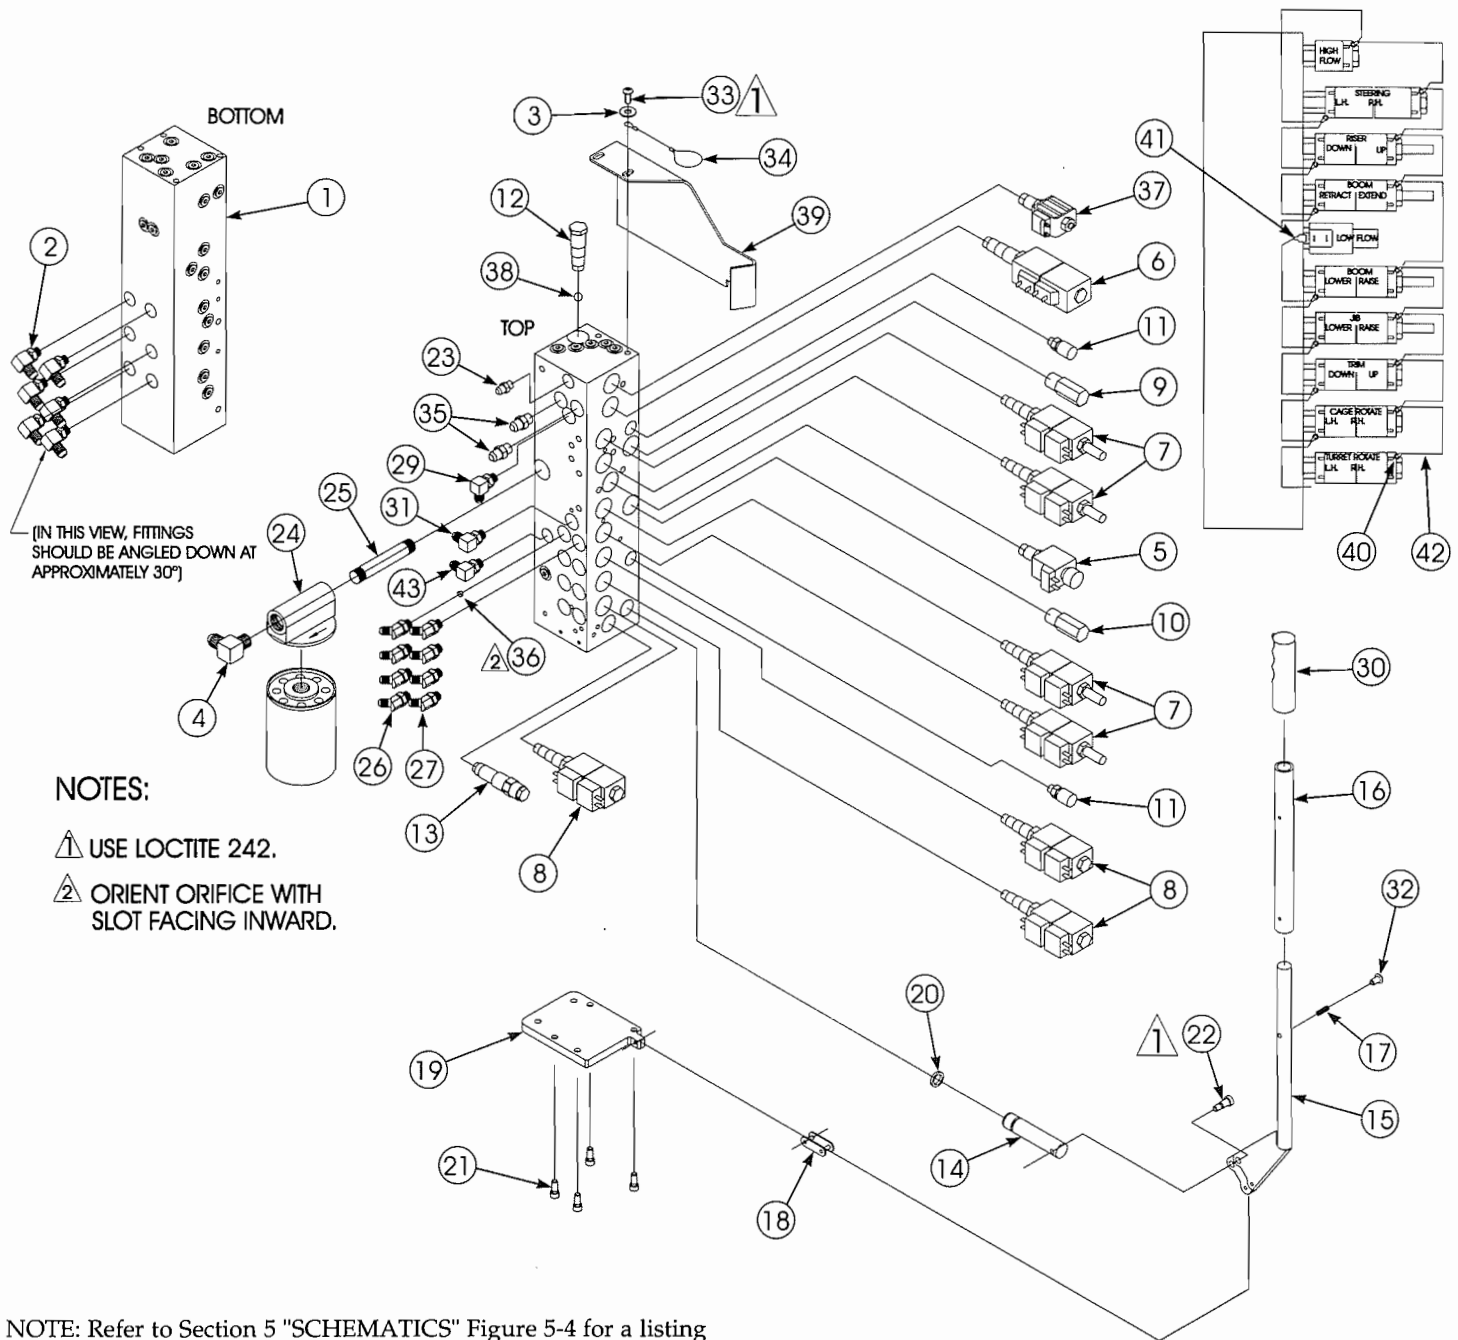

Figure 3-9: Hydraulic Manifold, Exploded View
3.7 Hydraulic Manifold (Figure 3-9)
NOTE: Mark all components as they are removed so as not to confuse their location during assembly. Refer to Figure 3-9 often to aid in disassembly and assembly.